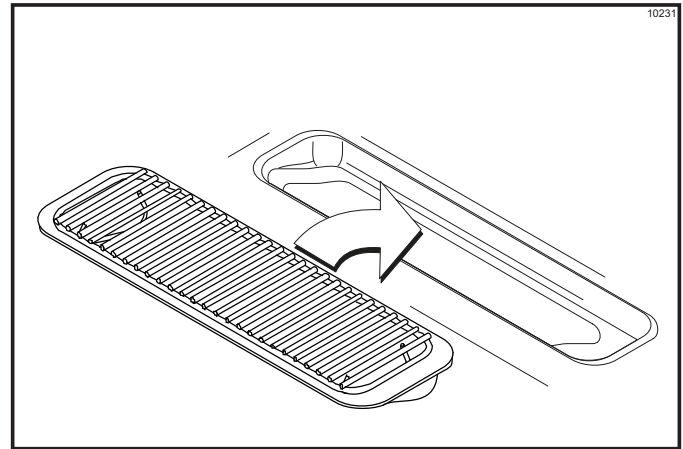

Figure 6-15
9. Install the front drip tray and splash shield under the door spout. (See Figure 6-15.)